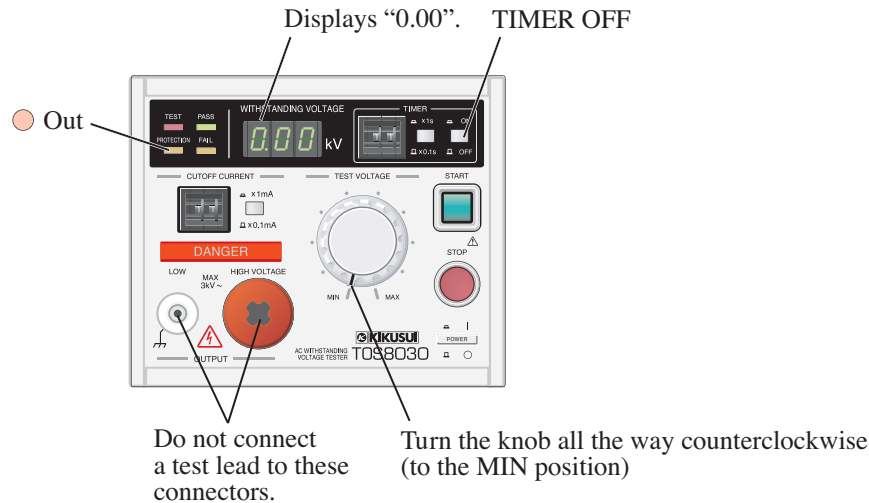

Fig. 5-8 Preparing for Test Voltage Setup
1. Bring the tester to the state shown in Fig. 5-8.